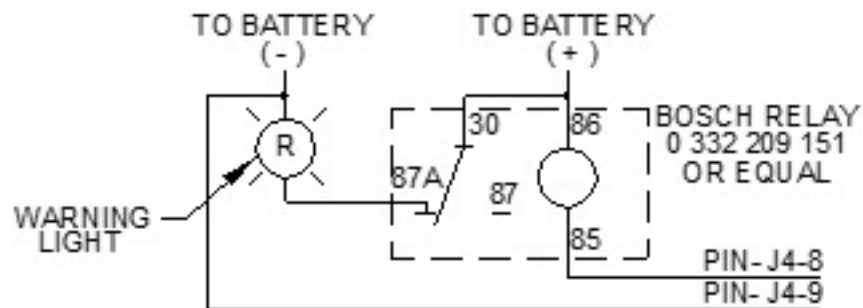

Figure 5-12 Example Vehicle Safety Interconnect Circuit
This relay output is from a bi-stable (latching) relay whose contacts either open or close (switch selectable) when the mast is active (not stowed). Its state is not affected by whether or not there is power to the mast. This contact is capable of carrying up to two (2) amperes and is available on pins J4-8 and 9 (data cable supplied by the installer). Figure 5-12 shows an example vehicle safety interconnect circuit. It can be used in conjunction with a customer-supplied relay to drive a flashing warning light. Other arrangements are possible.